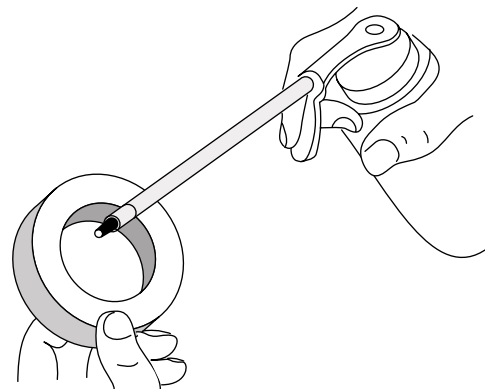

Fig. 19
5. Apply enough clean SAE 30 oil to lightly coat the filter (Fig. 19).